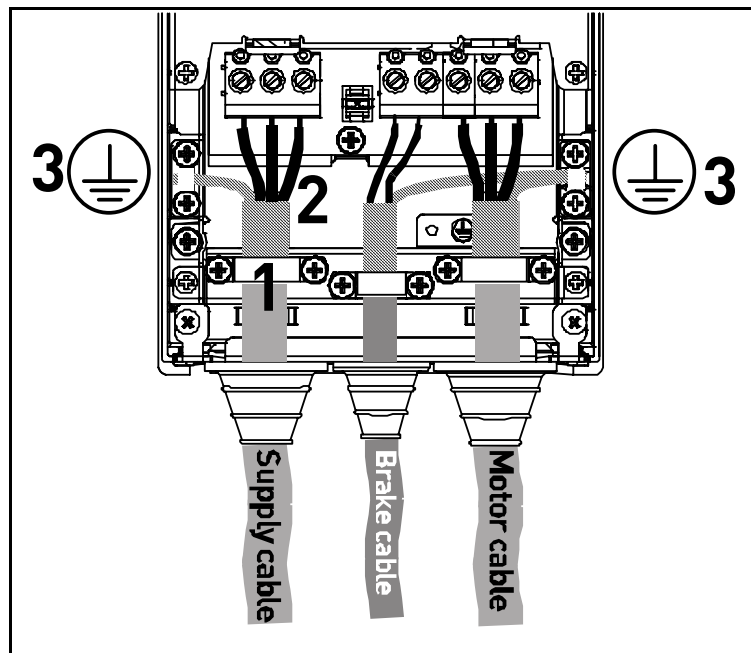

Figure 24.
- Connect the stripped cables as shown in Figure 24.
- Expose the shield of all three cables in order to make a 360-degree connection with the cable clamp (1).
- Connect the (phase) conductors of the supply, brake and motor cables into their respective terminals (2).
- Form the rest of the cable shield of all three cables into "pigtails" and make a grounding connection with a clamp as shown in Figure 24 (3).